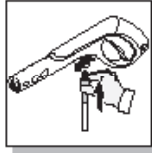

Fig. 5
- Connect the other end of the Soft PVC high pressure hose to the spray gun by inserting the brass metal tip of the Soft PVC high pressure hose into the fitting just ahead of the trigger guard. It will lock into the spray gun with a “click” (Fig. 5). Confirm the hose is locked into the spray gun by pulling slightly on the hose. The hose is now securely attached to the spray gun.